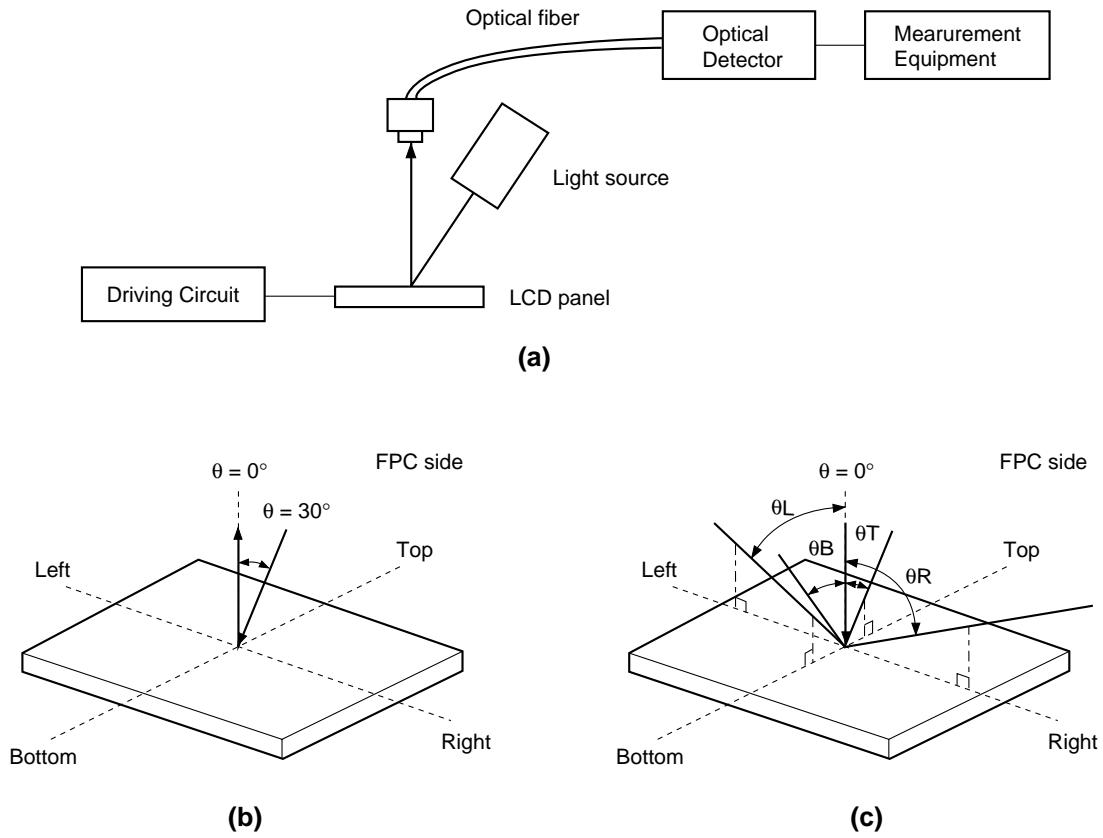

Fig. 1. Measurement system-1
In the Measurement system-1 (see Fig. 1 (a), (b)), calculate the reflectance factor by using the formula (1).
In the Measurement system-1 (see Fig. 1 (a), (b)), measure the reflectance factor of "White" and "Black" respectively and calculate by using the formula (2).
In the Measurement system-1 (see Fig. 1 (c)), viewing area is defined by the area which makes the  $CR \geq 2$ .